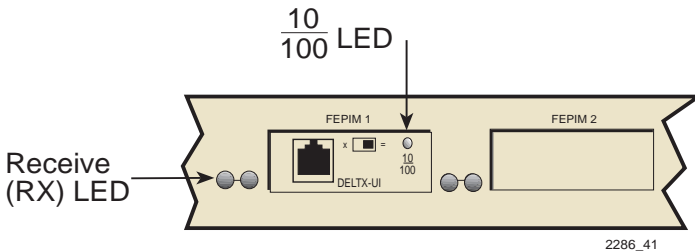

Figure 3-2 DELTX-UI LED
The optional DELTX-UI has one LED labeled 10/100. The 10/100 LED together with the RX LED allows the user to determine the link status and the operating speed of the Fast Ethernet (Port) Interface Module. The 10/100 LED and the Receive (RX) LED are shown in Figure 3-2.